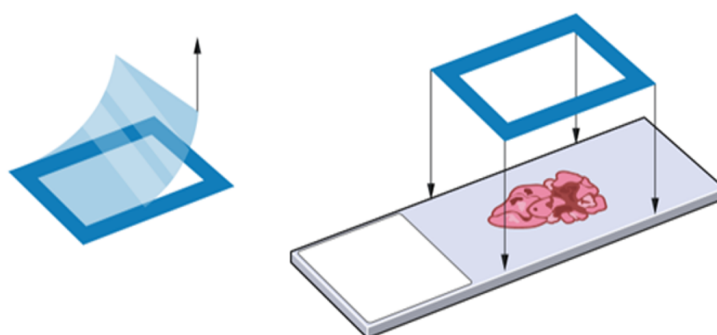

Figure 6: Apply Incubation Frame
4. Apply the incubation frame (Figure 6).